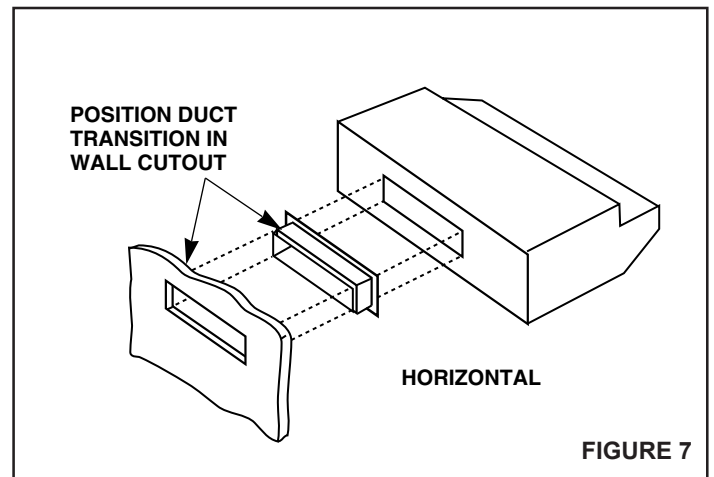

FIGURE 7
**For 3 1/4" x 10" horizontal discharge installation, refer to FIGURE 7.** If using supplied 3 1/4" x 10" duct transition, secure it to the range hood. Ensure that the damper flap operates fully and freely. If it does not, remove the damper flap or make necessary modifications to the installation to insure full and free operation of the damper flap.
4. Align hood's keyhole mounting slots over the four (4) partially installed screws.